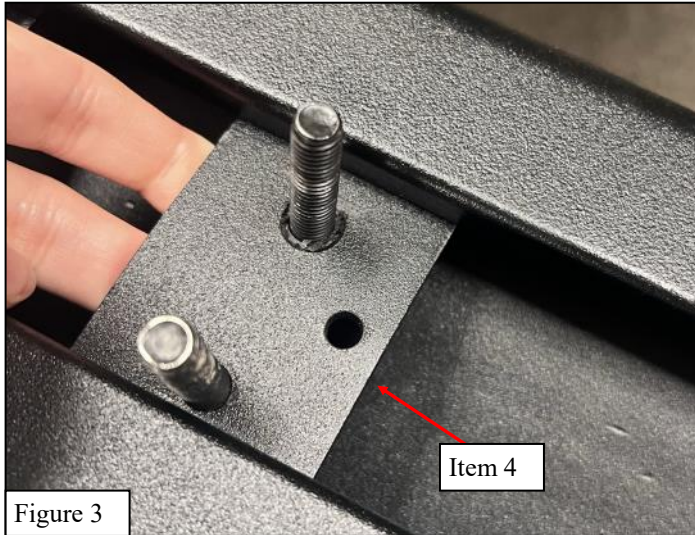

Figure 3
5. Insert the plate adapters (Items 4) into board assemblies (Item 1 & 2) by first putting them in parallel to the board, then turning them 90 degrees to be perpendicular to the board. (Make sure the plate hooks onto the bottom of the bracket, and the screws are facing outwards. See **Figure 3**.